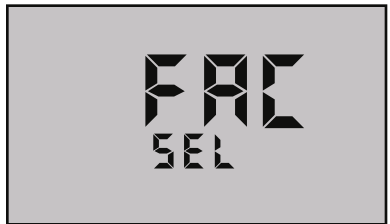

Figure 20
3. Press  repeatedly until you pass the CLR ALL and the C-F locations. The display will show a “FAC SEL” (see Figure 20).